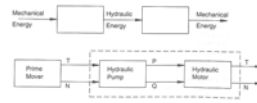

FIGURE 1.1
- Overall efficiency of circuit in Figure 1.1, ignoring pressure drops, is then: